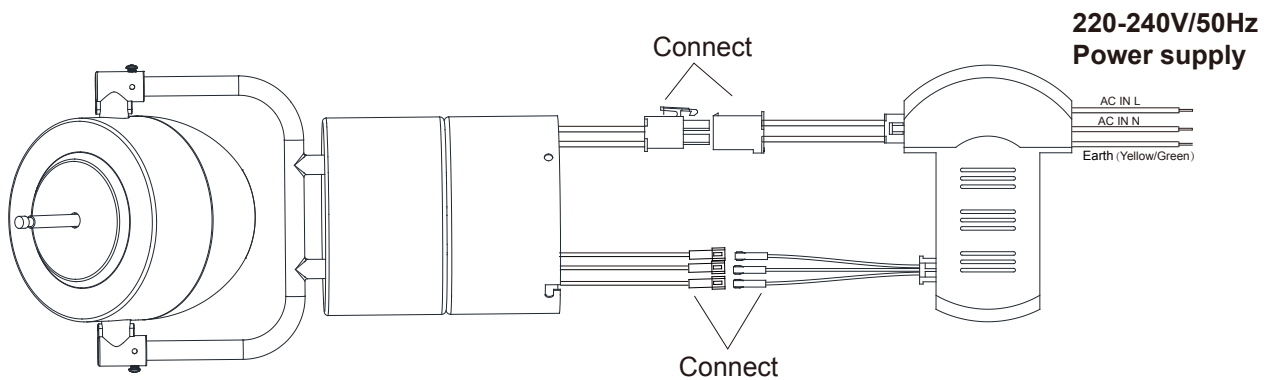

Fig.6
**Warning** – Only a licensed electrician may perform wiring. Connect wires as follows (see Fig. 6):